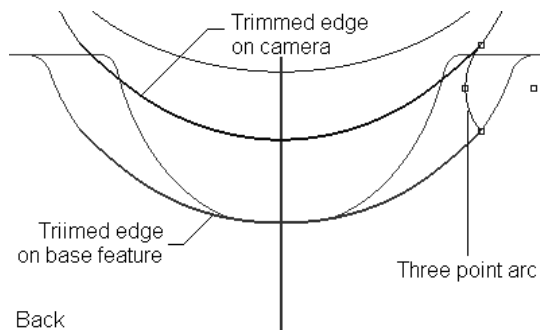
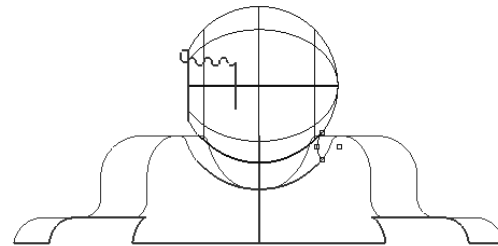

Figure 7-73 Profile of the profile blend surface
Figure 7-74 Model with the profile
5. Choose the **Arc (three point)** button from the **Keypoint Curve Toolbox** and then create the profile, as shown in Figure 7-73. Note that the start point and endpoint of the arc need to be snapped to the trimmed edges of the camera and the base surface, respectively. Figure 7-74 shows the profile with entire model.